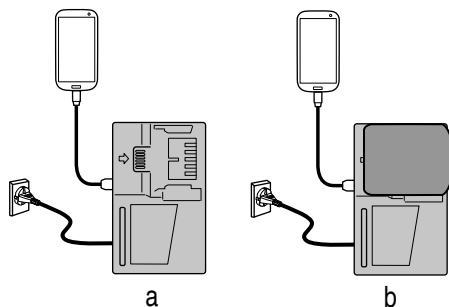

Fig. 22
- Charging a USB device from a electrical outlet. (Fig. 22-a)
- Charging a USB device and battery from a electrical outlet. (Fig. 22-b)